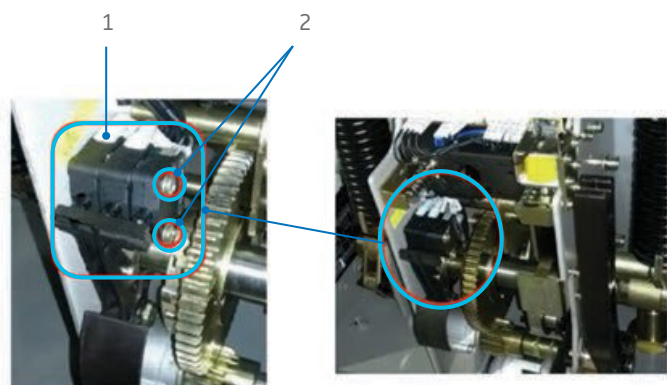

Figure 30: Removal and Replacement of Spring Charge Indication Switch
As shown in Figure 30, first remove the secondary wiring and remove the bolts (2), then remove the position switch.